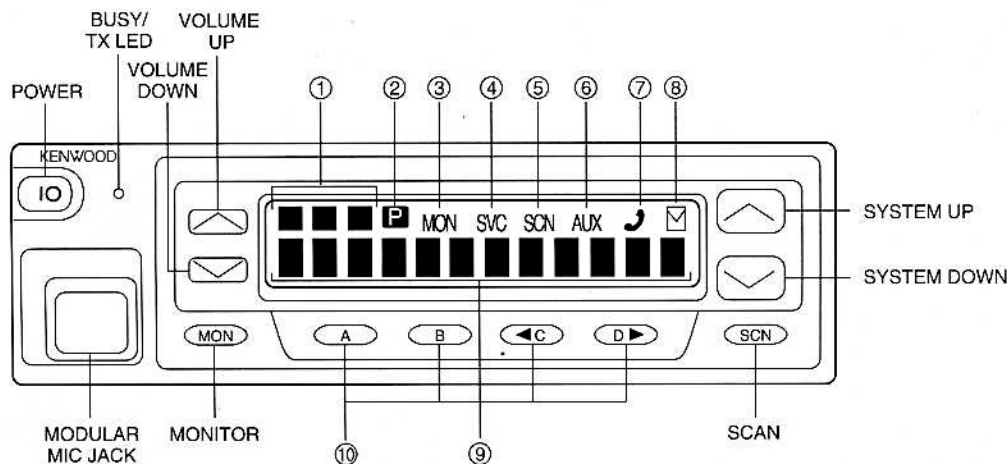

Fig. 1
2. Transceiver Controls and Indicators (Fig. 1)